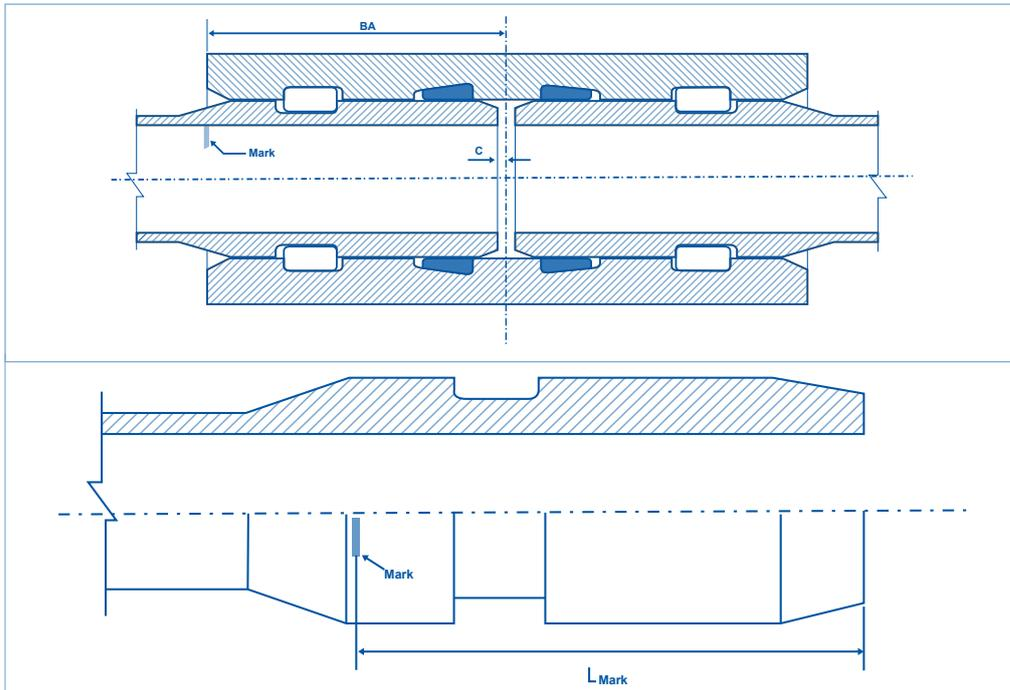

Figure 14: Position the Reka ring into the coupler
2. The depth of mark on the spigot end is half of coupler length 'BA' minus the play dimension 'C', see Figures 14, and 15, as well as Table 10.